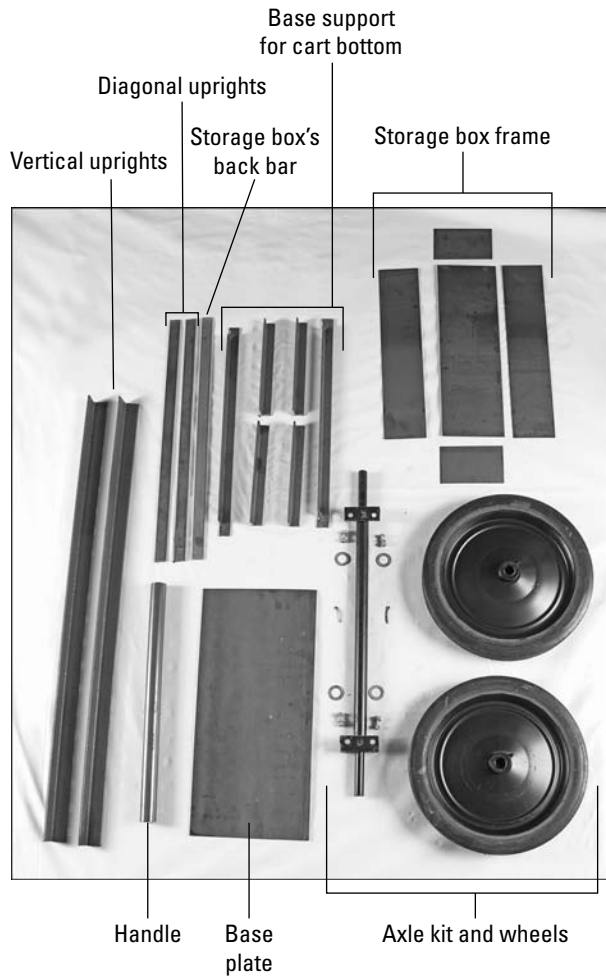

Figure 16-2:
Figure 16-2 shows you all the necessary pieces.
3. When you're done making cuts, lay out all the parts like you see in Figure 16-2 earlier in the chapter.